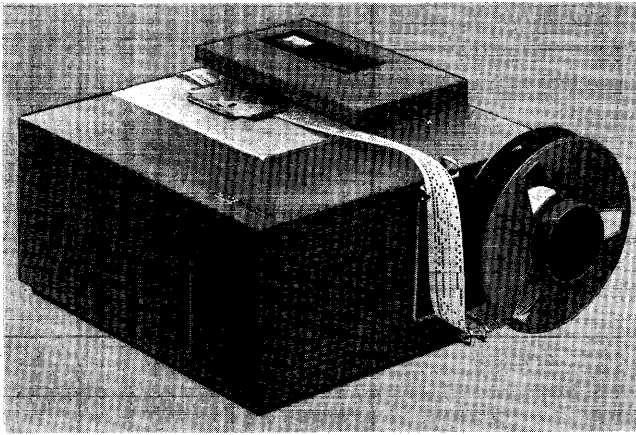

Figure 25. 1054-Tape Insertion
2. Thread the leader end of the tape through the guides (Figure 25) and insert in the take-up reel slot so that the counterclockwise rotation of the reel will properly wind the tape. This reel is a split-reel type with the front removable for easy insertion and removal of tape.